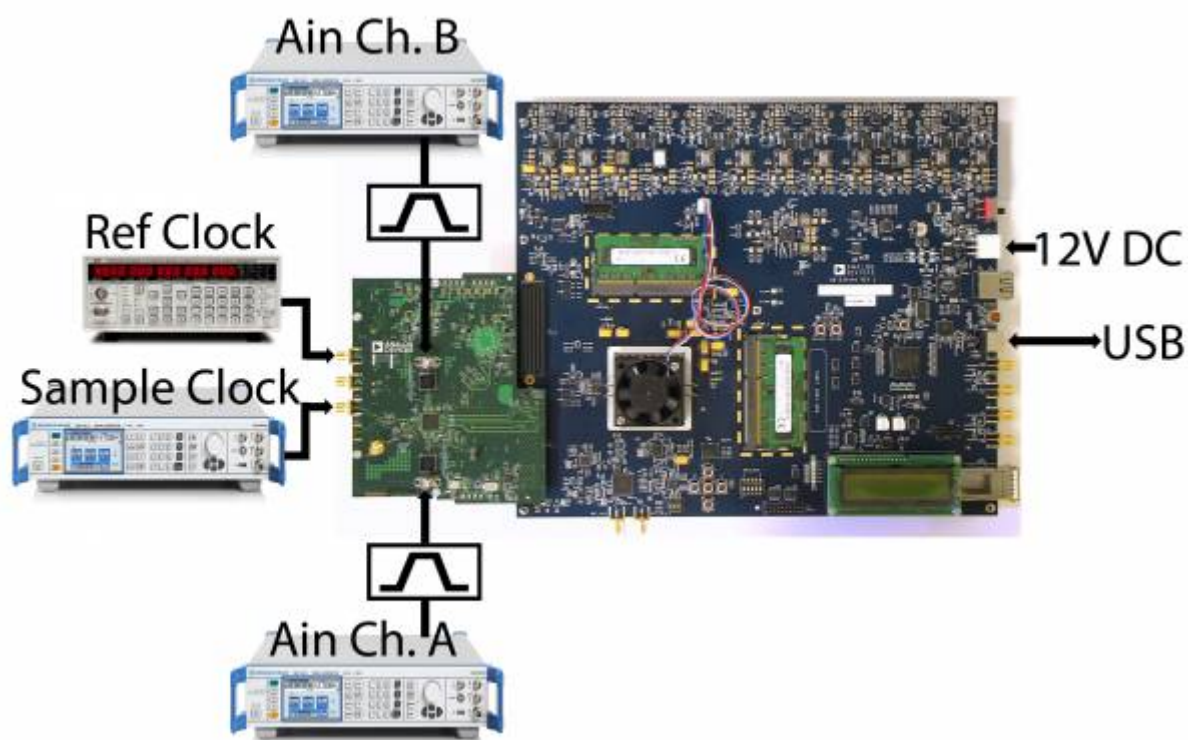

Figure 2. Evaluation Board Connection—AD9680-1000EBZ (on Left) and ADS7-V1EBZ (on Right)
1. Connect the AD9680-1000EBZ evaluation board to the ADS7-V1EBZ data capture board, as shown in Figure 2.
- If the Device Manager does not show the ADS7-V1EBZ listed as shown in Figure 2, unplug all USB devices from the PC, uninstall and re-install SPIController and VisualAnalog and restart the hardware setup from step 1.